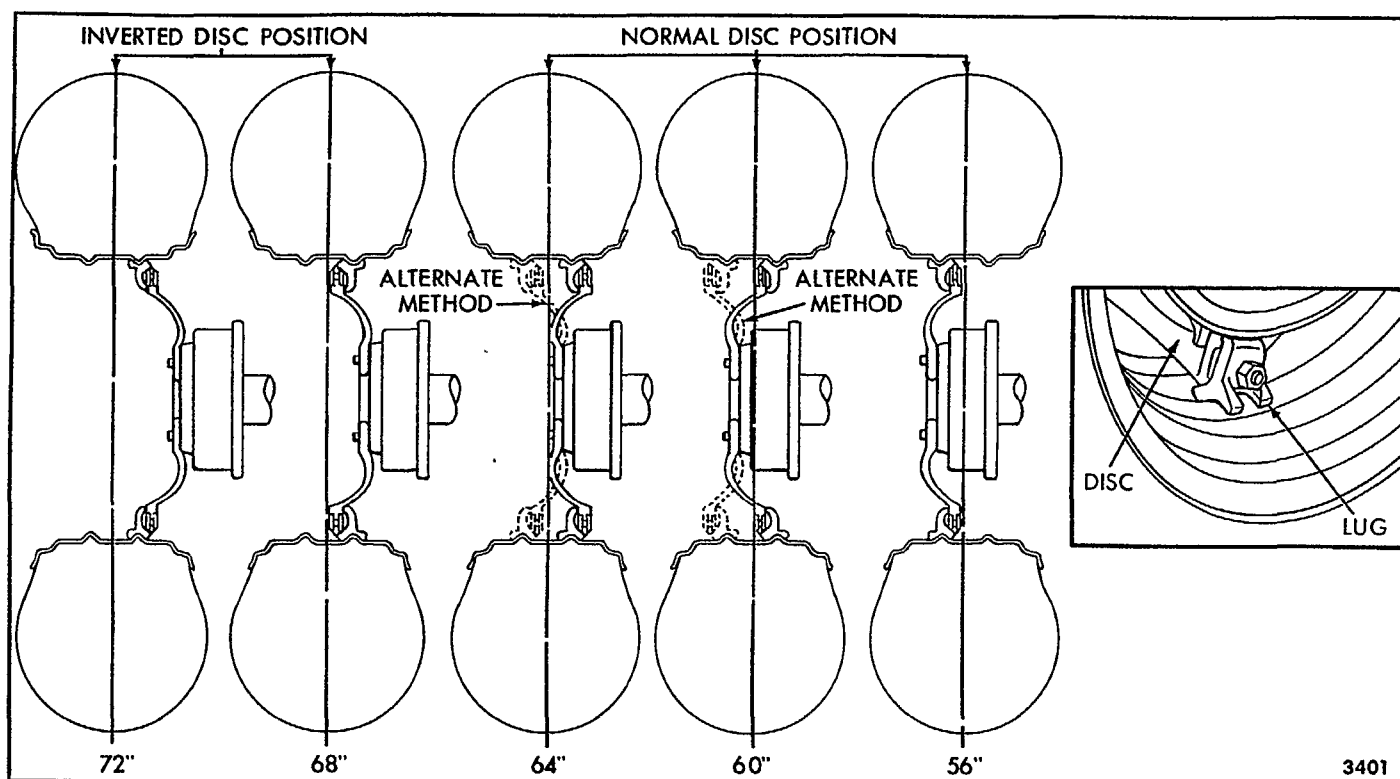

Figure 7—Rear Wheel Tread Width Adjustments—
2. Remove the six bolts and nuts and position the rim as desired. Refer to Figure 5 for "General Purpose" tractors, Figure 7 for "Industrial" tractors, or Figure 6 for "Row Crop" tractors, to obtain proper location of rim for desired tread width. Install the six rim bolts, lock washers, and nuts, and tighten them securely. Install the wheel on the tractor and repeat this procedure for the other wheel.